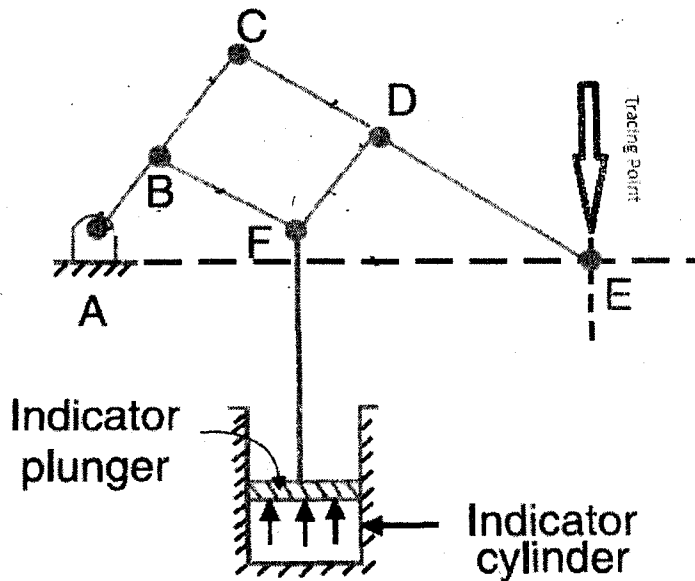

Figure 1
1. Figure 1 shows the configuration diagram of the Watt's indicator mechanism.